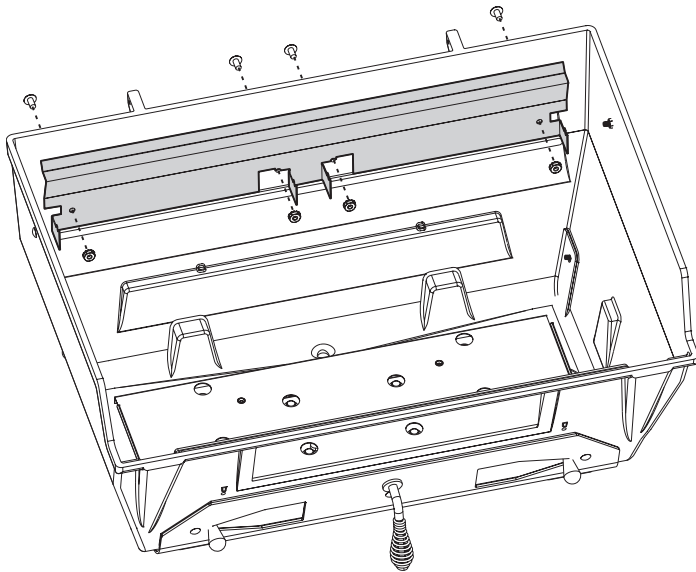

Figure 3
1. Align the four holes and attach the rear support bracket to the back inside of the lower grill body with four #10-24 x 3/8" screws and four #10-24 keps nuts. See Figure 3.